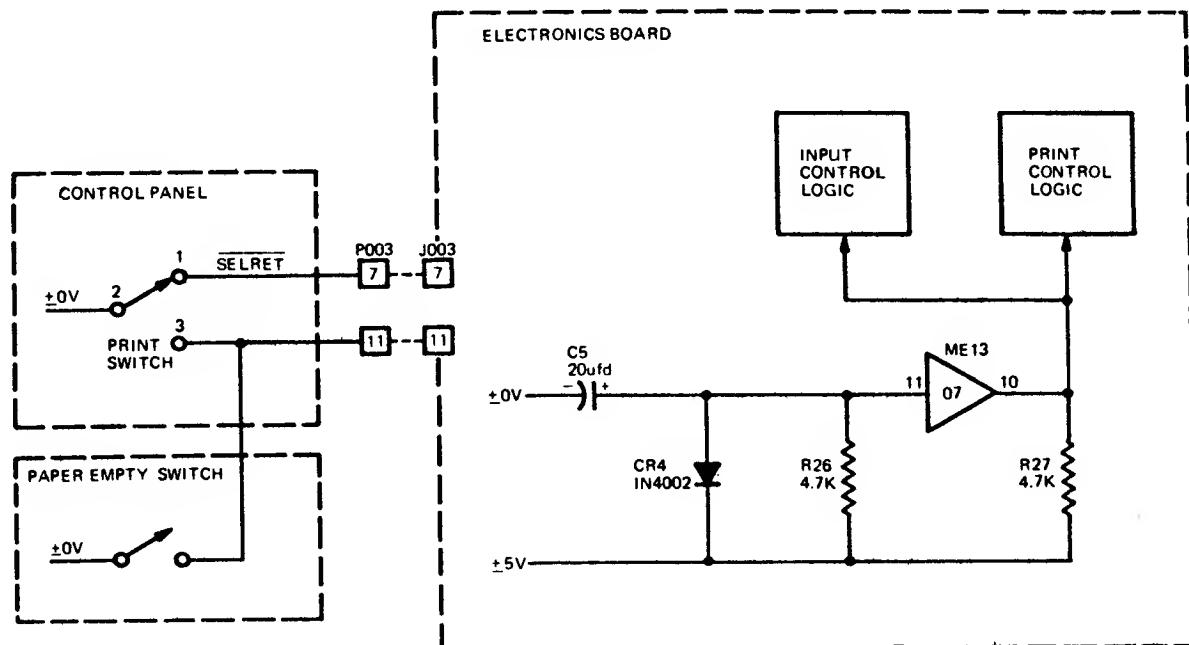

Figure 2-2. INITIALIZING THE PRINTER
2.3 INITIALIZING THE PRINTER (Figure 2-2)